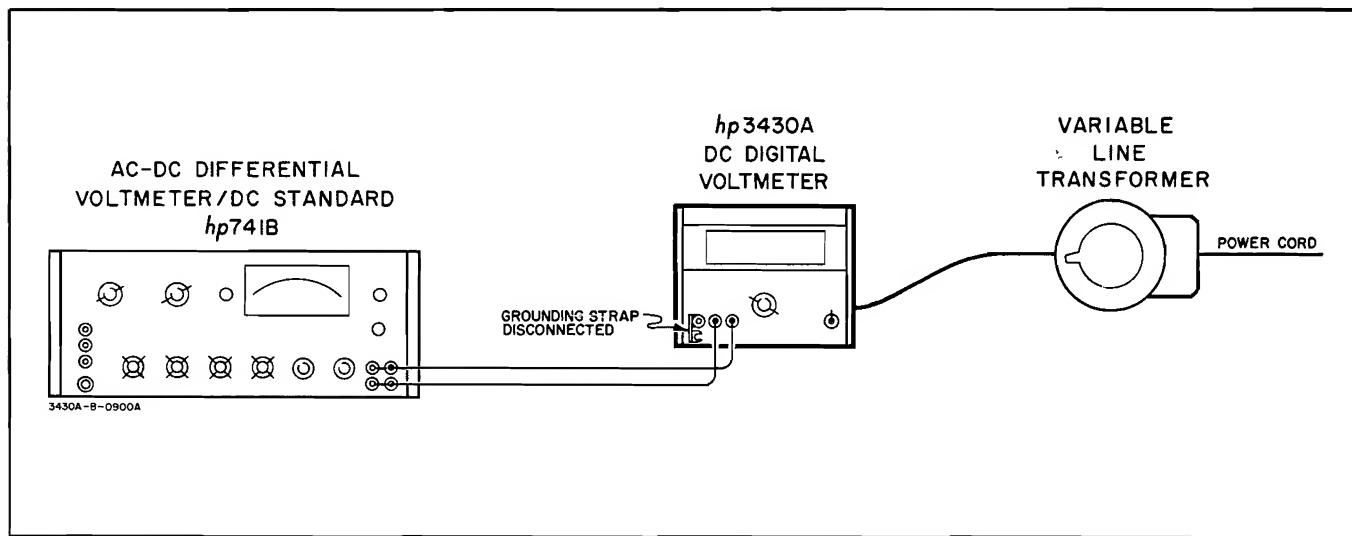

Figure 5-1. Accuracy Check
- Connect the standard as shown in Figure 5-1, and set the dc standard output to 1.000 volts. The 3430A indication should be between 0.99 V and 1.01 V.